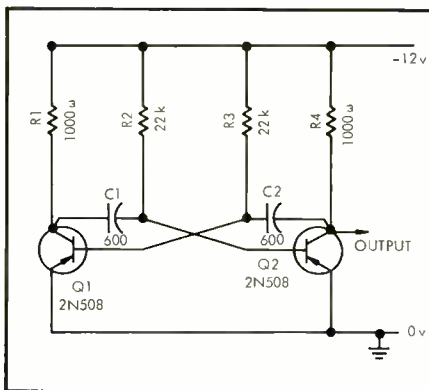
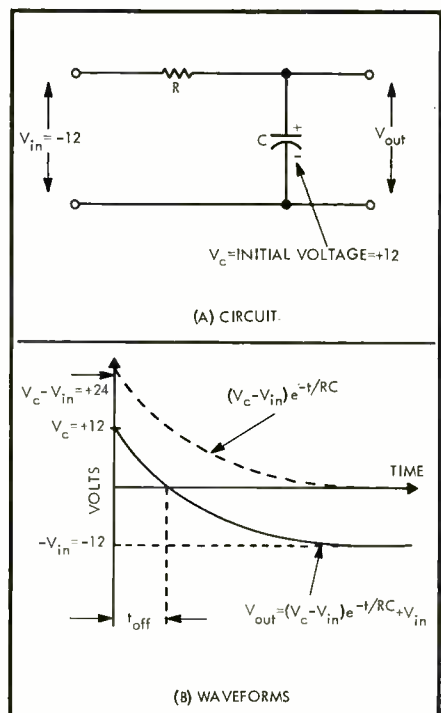
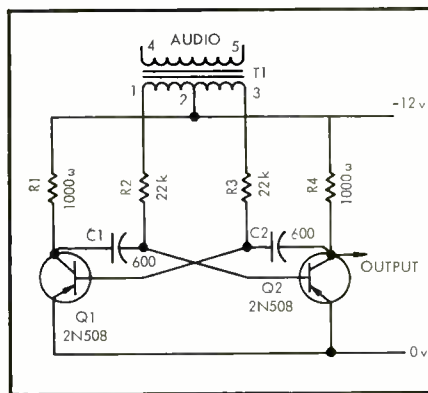

Fig. 16. Astable multivibrator square-wave generator.
Fig. 17. Calculation of  $t_{off}$  for the astable multivibrator.
Fig. 18. Astable multivibrator generator and modulator.
best is the astable multivibrator shown in Fig. 16. In this circuit transistors  $Q_1$  and  $Q_2$  alternately turn on and off and the output from either collector is a square wave. The circuit works like this:
Let the circuit of Fig. 17 represent one of the  $RC$  networks in Fig. 16, say,  $C_2$  and  $R_3$ . As we mentioned earlier the voltage across  $C_2$  is  $+12$  volts at the time that  $Q_1$  just turns off and  $Q_2$  just turns on. Since the negative end of  $C_2$  is at about zero volts (the collector voltage of  $Q_2$  is about zero), we show the negative end of  $C$  in Fig. 17 grounded. The positive end of  $C$  is at  $+12$  volts, and is con-
nected to the resistor  $R$ , just as the positive end of  $C_2$  is connected to  $R_3$  in Fig. 16. The other end of  $R$  in Fig. 17 is connected to  $-12$  volts, just like the other end of  $R_3$  in Fig. 16.
Now let the  $-12$  volt input voltage be called  $V_{in}$ , and let the initial voltage of  $+12$  volts across the capacitor be called  $V_c$ . Then let the output voltage of the network (across capacitor  $C$ ) be called  $V_{out}$ . Now at the beginning, that is, at  $t=0$ , the output voltage is equal to the initial capacitor voltage:  $V_{out} = V_c$ . A long time later, after the circuit has stabilized and the capacitor has finished discharging, the output voltage will be the same as the input:  $V_{out} = V_{in}$ . Between these times the capacitor will discharge with an exponential waveshape like that shown in the curve of Fig. 17.
But note one thing at this point: this is the equation which would govern the behavior of the RC circuit in Fig. 17, whereas the actual RC circuit is connected into the circuit of Fig. 16. And we never permit the voltage across the capacitor to swing through the entire range from +12 to -12 volts. It so happens that as soon as the voltage drops to about zero, the base voltage of transistor  $Q_1$  becomes zero. At this point the base starts becoming negative, and the transistor turns on. Now the other RC network assumes control. The off time of transistor  $Q_1$  is therefore equal to the time that the voltage across capacitor  $C_2$  takes to go from +12 volts to zero. This is the  $t_{off}$  interval marked off in (B) of Fig. 17. Since at this point  $V_{out} = 0$ , we can solve the preceding equation to find the value of  $t$  when  $V_{out} = 0$ .
where "ln" is the symbol for a natural logarithm. Let's now apply the above equation to the circuit of Fig. 16, where  $R$  is 22k ohms, and where  $C$  is 600 pf. The value of  $V_c$  is +12 volts and  $V_{in}$  is -12 volts. The value of  $t_{off}$  is therefore
But wait! We can get length-modulated pulses out of the multivibrator directly. Suppose we modify the circuit as shown in Fig. 18. This circuit operates the same as the circuit in Fig. 16, except that resistors  $R_2$  and  $R_3$  are connected to the -12 volt line through the secondary